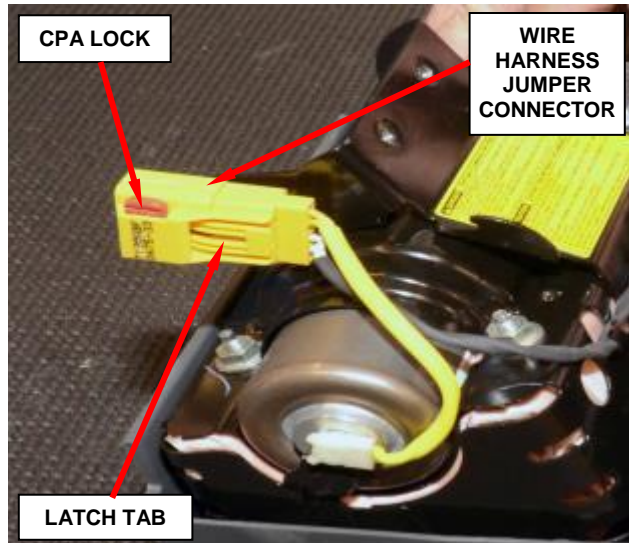

Figure 25 – Wire Harness Jumper
- a. Slide the red Connector Position Assurance (CPA) lock on the connector toward the side of the connector (Figure 25).